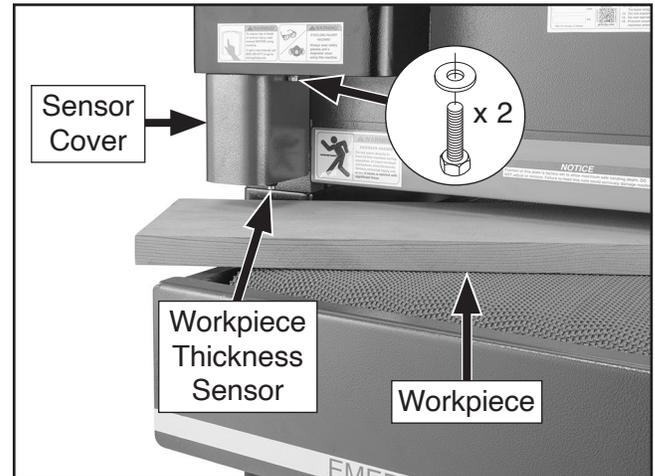

Figure 75. Workpiece under workpiece thickness sensor and sanding drum.
3. Reposition workpiece on conveyor table so part of it extends under workpiece thickness sensor and part of it extends under sanding drum (see **Figure 75**).
5. Remove (2) hex bolts and washers shown in **Figure 75** to remove sensor cover.